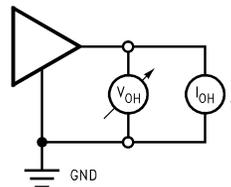

Figure 6.  $V_{OH}$  Test Circuit
**$V_{OH}$ —High Level Output Voltage.** The output voltage at an output terminal with input conditions applied that, according to the product specification, will establish a logic high level at the output. This voltage is measured with respect to circuit common (ground). See Figure 6.